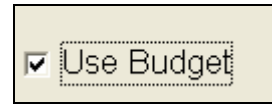

Figure 16.4.25B
2. Click on the **Use Budget** box if you want to use a budget (Figure 16.4.25B).